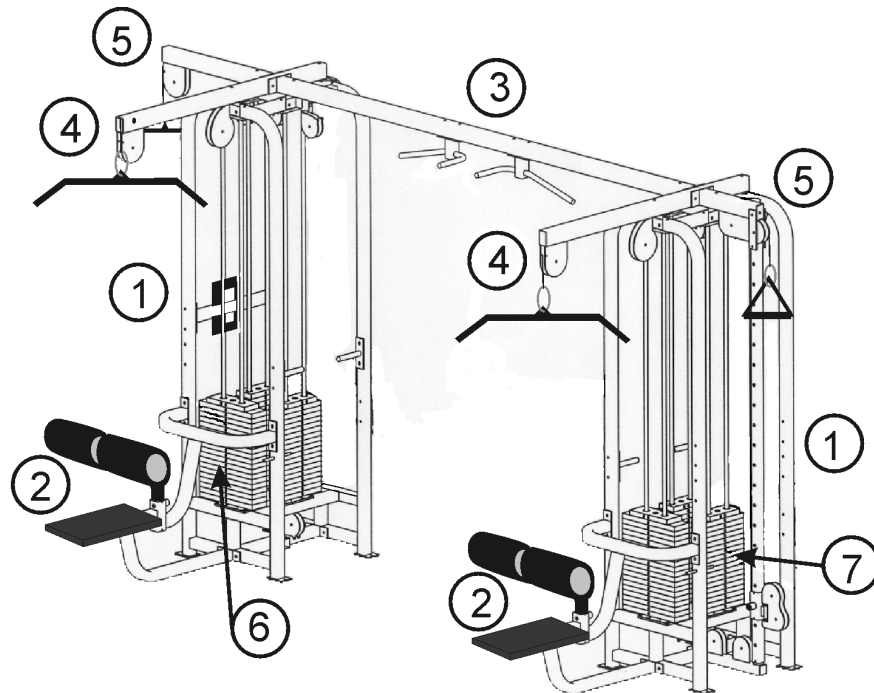
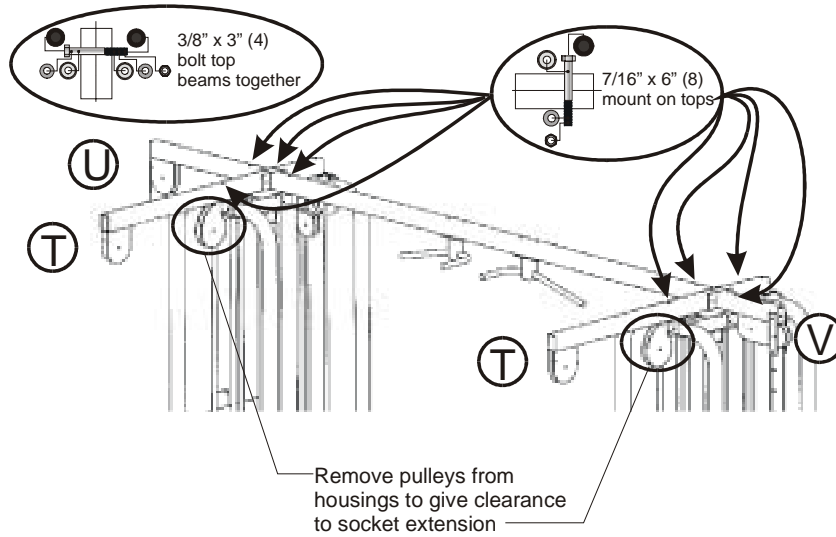

Figure 2. SM62 main components.
Figure 7. Bolt on the connecting beam, lat tops, tricep tops.
Figure 2 shows an assembled SM62.
- 3. Bolt connecting beam to cubes** (part 4 from Figure 2) using a 5/8" socket with extension and combination wrench. Use two of the large 7/16" x 6" bolts, 7/16" washers, and 7/16" end cap washers and end caps. Figure 7 shows the connected cubes.
- Mount the 56" lat tops** (part T) to the cubes using a 5/8" socket and combination wrench by inserting two of the large 7/16" by 6" bolts using the hardware configuration shown in Figure 7. **Mount the 29" tricep tops** (part U) to the cubes using the 7/16" x 6" bolts. Secure to the lat tops using the 3/8" x 3" bolts. Use the hardware configuration shown in Figure 7. You will need to remove the pulleys from the teardrop pulley assemblies to gain clearance for the socket wrench extension. Leave the pulleys out of the housings until the cables have been installed.
The part shown in Hardware Figure 2 is the 9/16" cable jam nut that's used to secure the cables to the weight stacks.
Hardware Figure 2. Cable jam nut.